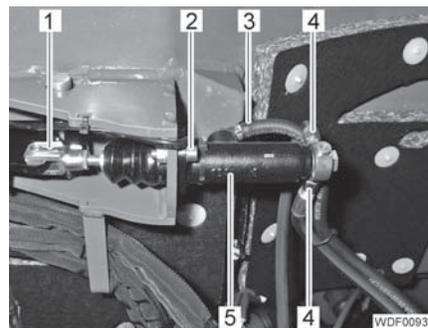

Fig. 137 Main brake cylinder
- Unlock the pin (Fig. 137,1) and pull it out of the fork end.
- Unscrew and close off the 2 hydraulic lines (Fig. 137,4).
- Close off the hydraulic line (Fig. 137,3) with a clip, open the clamp and pull off the hydraulic line.
- Unscrew the 2 screws (Fig. 137,2).
- Remove the main brake cylinder (Fig. 137,5).
- Insert the main brake cylinder (Fig. 137,5).
- Screw in 2 screws (Fig. 137,2) with washers and tighten.
- Attach the hydraulic line (Fig. 137,3) to the connection on the main brake cylinder, secure it with a clamp and open the clip.
- Screw the 2 hydraulic lines (Fig. 137,4) onto the connections on the main brake cylinder and tighten.
- Push the pin (Fig. 137,1) through the fork end and brake linkage and secure.